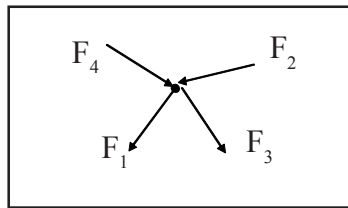

Fig.2.4
- c) Coplanar concurrent forces: The forces, whose lines of action lie in the same plane and meet at one point, are called as coplanar concurrent forces (Sec Fig.2.4)